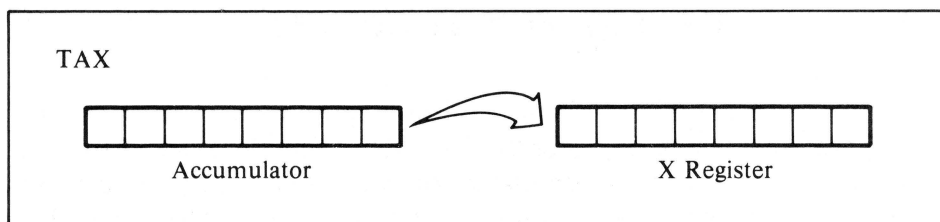

Figure 8-5. Transfer from accumulator to X register
- **TAX** — Transfers the contents of the accumulator to the X register (see Figure 8-5).